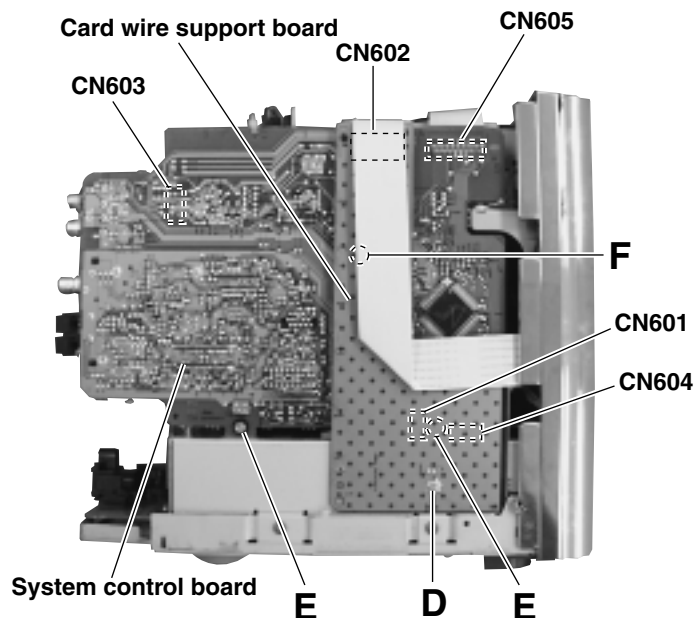

Fig.4
■ Removing the system control board (See Fig.4)